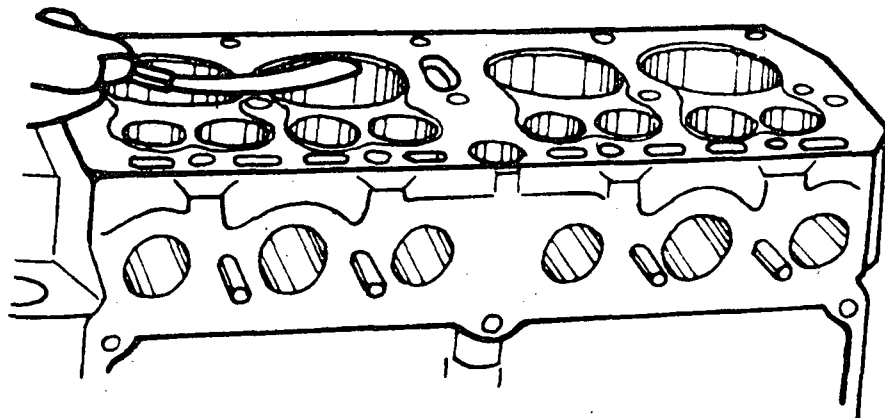

Fig. 1
- d) Remove the gasket remains with a scraper (fig. 1).